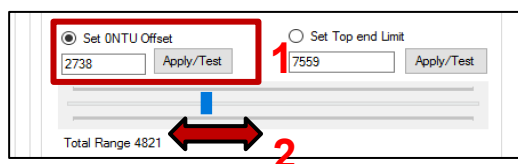

Figure 7.K: Scaling and calibrating ONTU offset
3. Select the option “Set Top-end Limit” (Figure 7. L: #3).